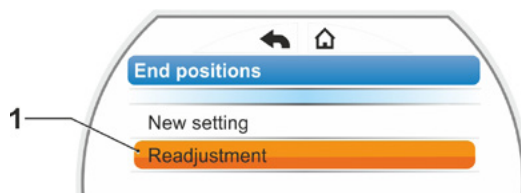

Fig. 1: End position readjustment
3. Confirm 'Readjustment' menu item (fig. 1, item. 1).